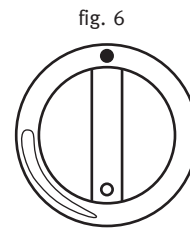

fig. 6
**Caution:** If the flame does not ignite after 2 to 4 seconds, you need to return the knob to the low position (Figure 6). A small flame often kindles faster than a large flame.